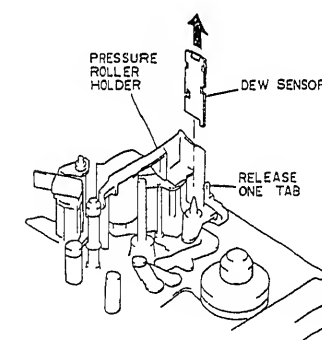

Fig. 2-59
2. Release one (1) tab holding the dew sensor. (See Fig. 2-59)